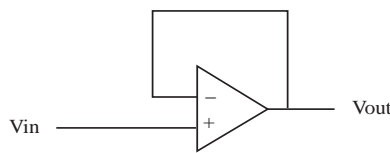
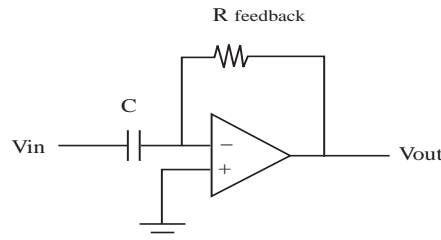

Figure 3: Voltage Follower.
Figure 4: Differentiator Circuit.
Consider a sinusoidal input signal with frequency 2Hz and amplitude 1Volt. The objective is to differentiate a signal and to record it using computer data acquisition system. Keep in mind that the A/D system saturates at ± 5 volts. Consider saturation in your design. You will first buffer the signal using a voltage follower (Figure 3), then differentiate (Figure 4) the signal and later amplify it appropriately (to maximize resolution) before passing it into the A/D. Design and analyze the circuit you designed using the resistor and capacitor values listed below. Resistors must be chosen from: 1K, 2.2K, 3.3K, 10K, 33K, 68K, 100K, 200K and 500K (ohms). Consider A/D saturation in your design! Capacitors can only be: 0.1mF, .01mF, .001mF, and 1nF.
2. Add a capacitor across the feedback resistor in your differentiator circuit (see Figure 4). Make sure that the product of your feedback resistor and the added capacitor is around 0.001. Set the appropriate sampling rate and number of samples and start the program. Save the file and show the plot in your report.